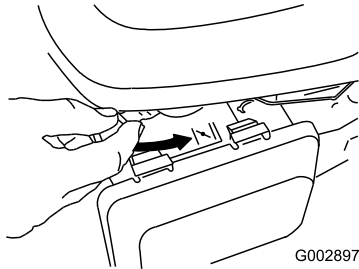

Figure 21
3. Move the choke lever to the Choke position (Figure 21).